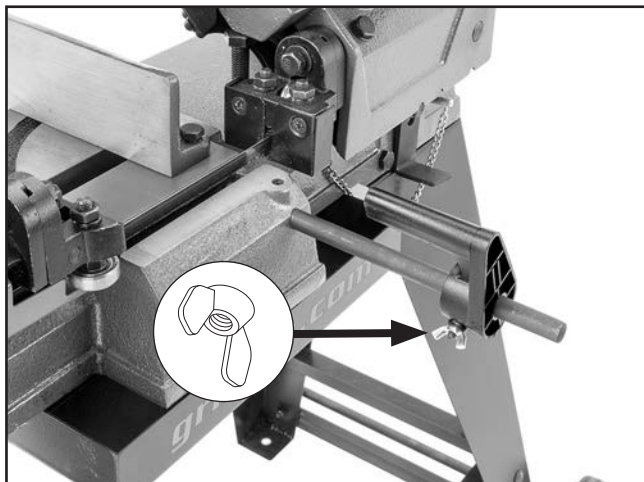

Figure 30. Work stop wing nut location.
4. Loosen wing nut shown in **Figure 30** and adjust work stop until it contacts workpiece. Tighten wing nut to secure work stop setting.